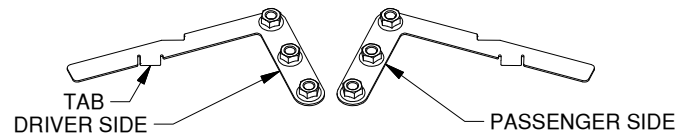
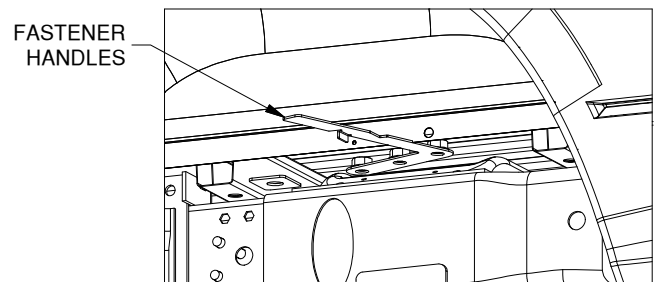
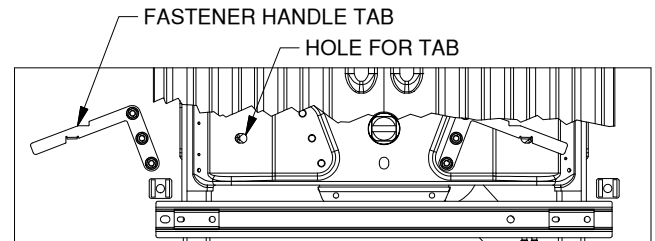

Figure B2: Fastener handles.
Figure B3: Looking at passenger side wheel well.
Figure B4: Cutaway view looking down into bed.
2. **Install fastener handles.** Identify the driver and passenger side fastener handles by comparing the parts to Figure B2. Place the fastener handles between the frame cross member and the bed on their respective sides, see Figure B3. Use the handle welded to the nuts to guide them into place. Once the nuts are positioned, lower the handle so that the tab on the bottom side of the handle fits in the hole as shown in Figure B4. This will help guide the nuts into position while the center section is installed. Make sure that the three nuts are directly over the holes in the frame.